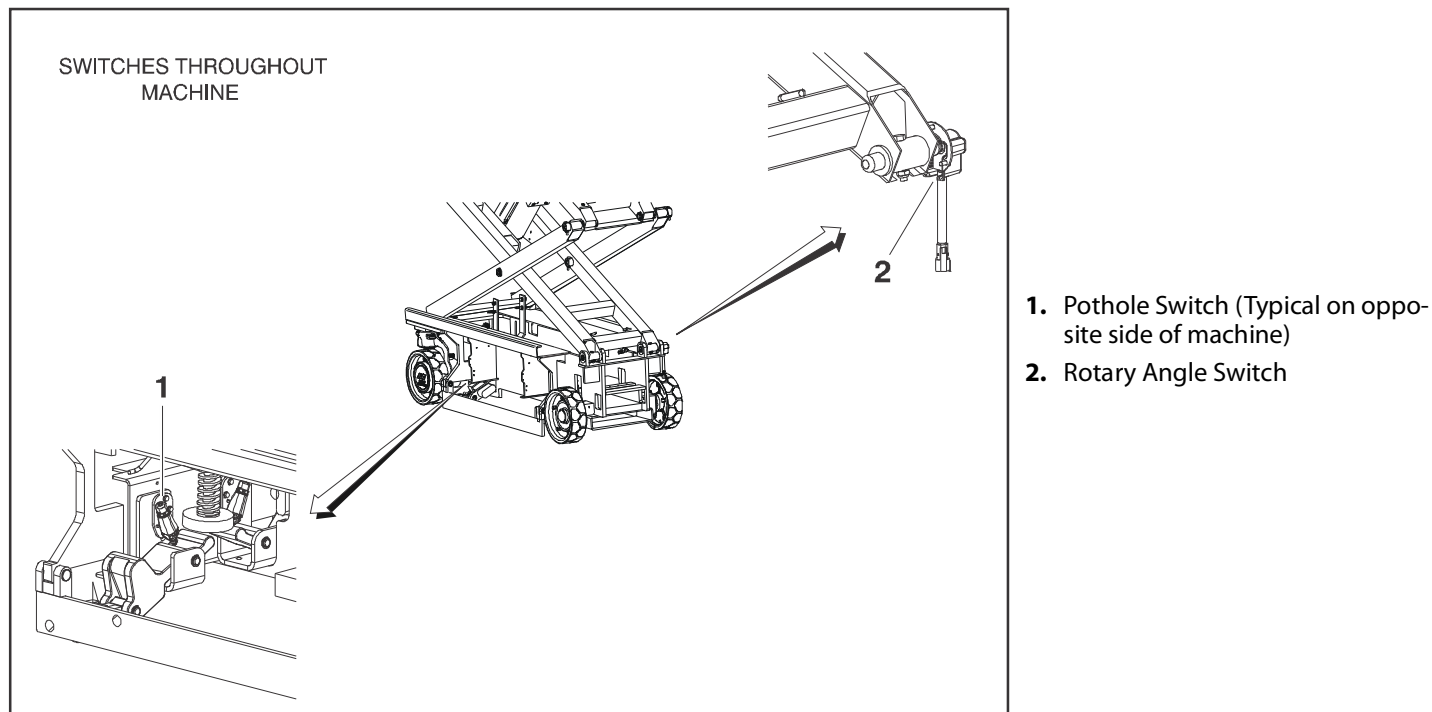

Figure 2-1. Switch Locations
5. **Walk-Around Inspection** – Refer to Figure 2-1.